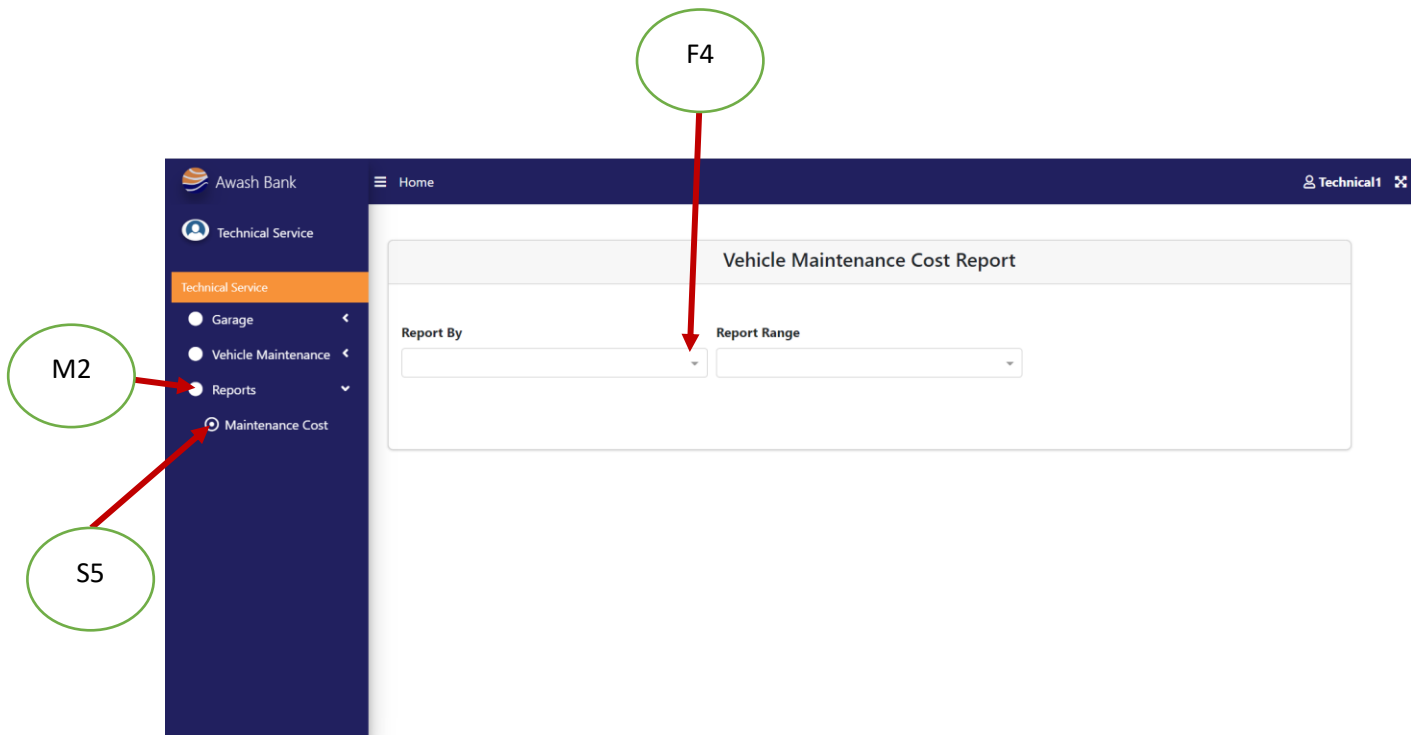

Figure 1.13: Reports Menu
- Click on the drop-down icon(F4) (Fig: 1.13) to select the type of report